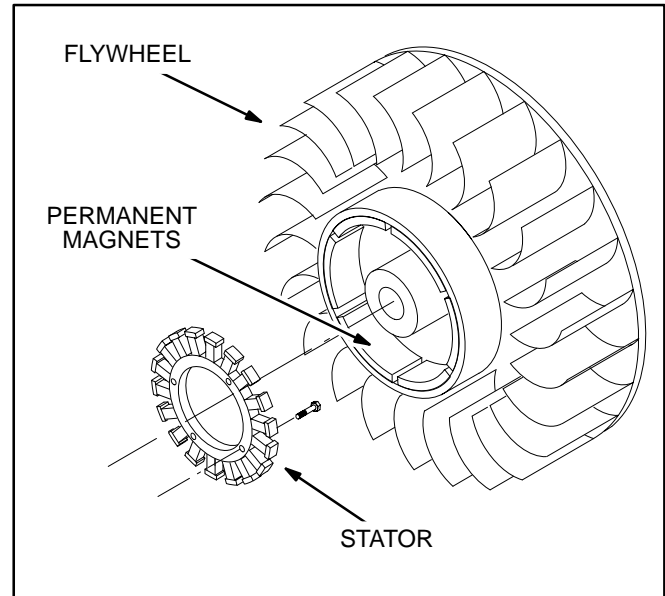

FIGURE 9. PMG (BEGINNING SPEC J)
8. Tighten the puller center screw until the flywheel comes loose. Remove the puller, flywheel center screw and washer. Remove the flywheel carefully so as not to damage the PMG. Inspect the flywheel and replace it if any air vanes are missing or magnets are loose or missing (Figure 9).
See Figure 9. Beginning Spec J, the genset is equipped with a PMG (permanent magnet generator). The PMG consists of a multi-pole stator bolted to the engine gear case, concentric with the crankshaft, and six rotating permanent magnets mounted